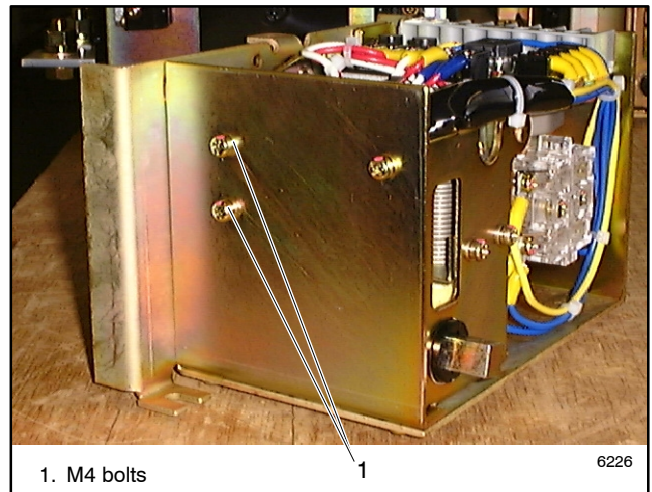

Figure 8-19 Select Coil Assembly Bolts
2. Remove two M4 bolts shown in Figure 8-19 and remove the select coil assembly.